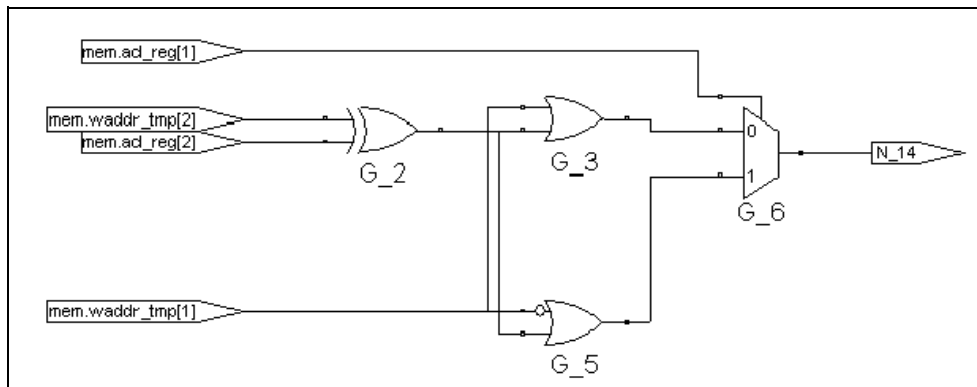

Figure 12: Gate-level view of Level 2 (after traversing component LUT4_6FF6 G12)
- Level 2 in in the above figure shows the LUT4_6FF6. This stage compares the values of the read and write addresses and checks for equality in Figure 12: Gate-level view of Level 2 \(after traversing component LUT4_6FF6 G12\) on page 15.